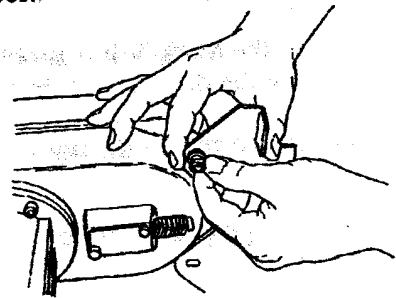
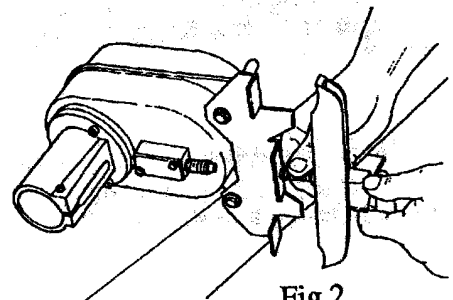

Fig.1
Fig.2
1. Point the angles of the support bracket (30) toward the quill clamp (4) as shown in Fig.1 and Fig.2. Using two screws (28) and washers (29), install the support bracket (30) on the quill clamp side of the Speed Reducer. Finger tighten only. (You'll need the support bracket a little loose for later alignment.)
2. Install the carriage clamp assembly (31). See Fig.2.